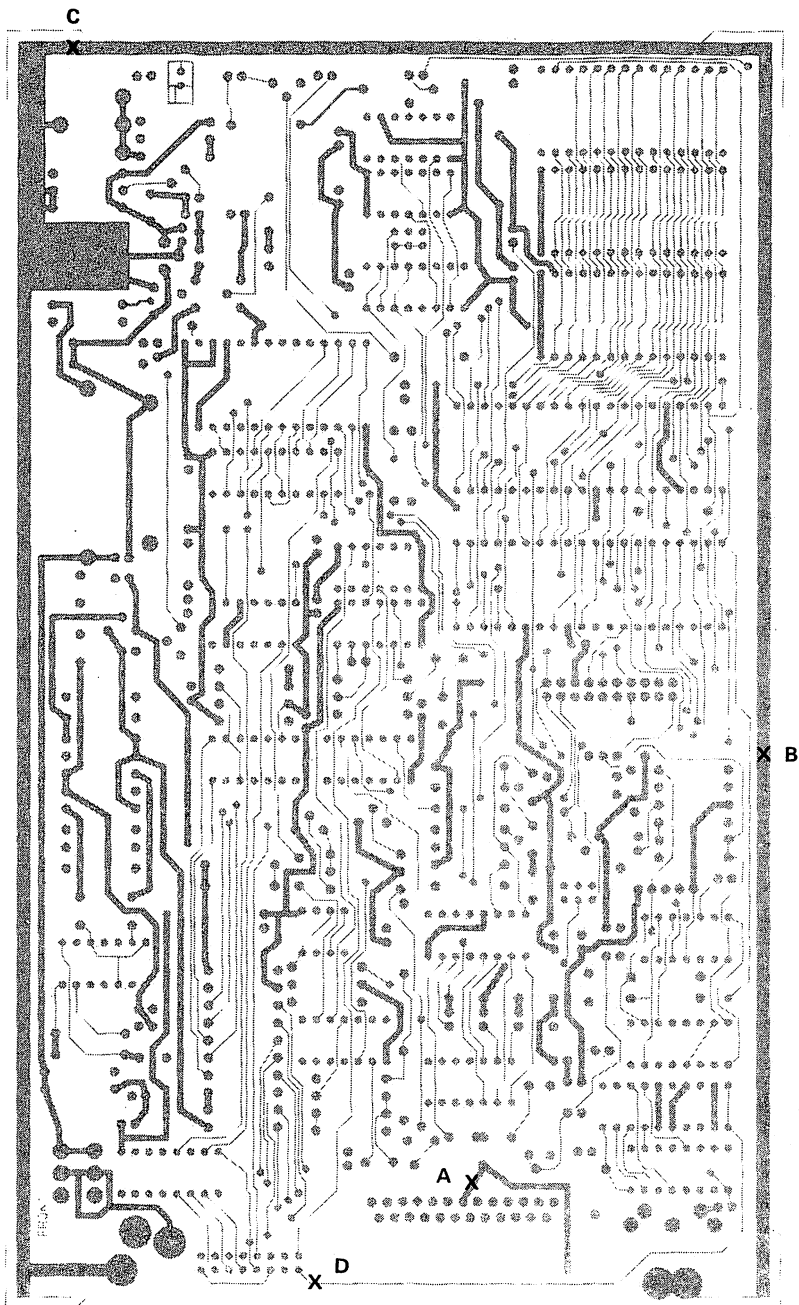

Figure 1 – TNC 2 REV 1 Component Side
All trace cuts and added parts are shown in the two illustrations that accompany this article. Figure 1 is the component side of the PC board, while Figure 2 is the solder side. Please refer to these figures when performing the modifications.
2. Break heavy ground trace between anode end of CR12 and RS-232 connector pin 7 (see cut A, Figure 1).
3. Cut the ground trace on the top of the board near the edge at the same location as in above step 2 (see cut B, Figure 1).
4. Cut the ground trace running (top of board) under the LEDs right where it joins the fatter trace leading towards BATT1 (see cut C, Figure 1).
4. Cut the trace supplying the clock signal to the MF-10 (now you can't easily use the MF-10 again -- think twice about cutting this trace!) (see cut D, figure 1).